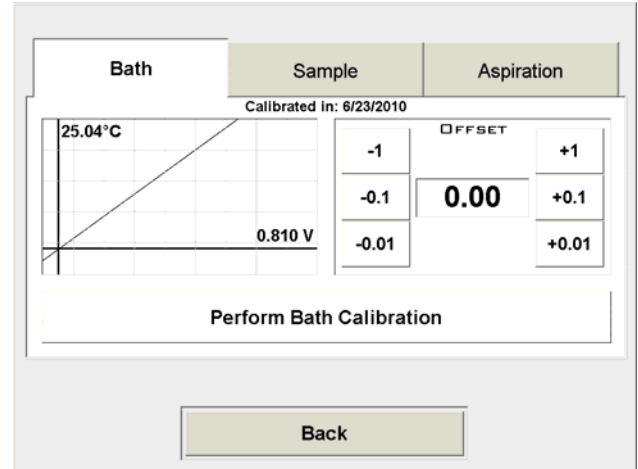

Figure 7: Calibration Screen
- At the top of the Calibration Screen (See Figure 7) three buttons will allow the user to choose which probe/ sensor will be displayed. The **Calibrated in** label directly below these buttons shows the selected probe's last calibration date.